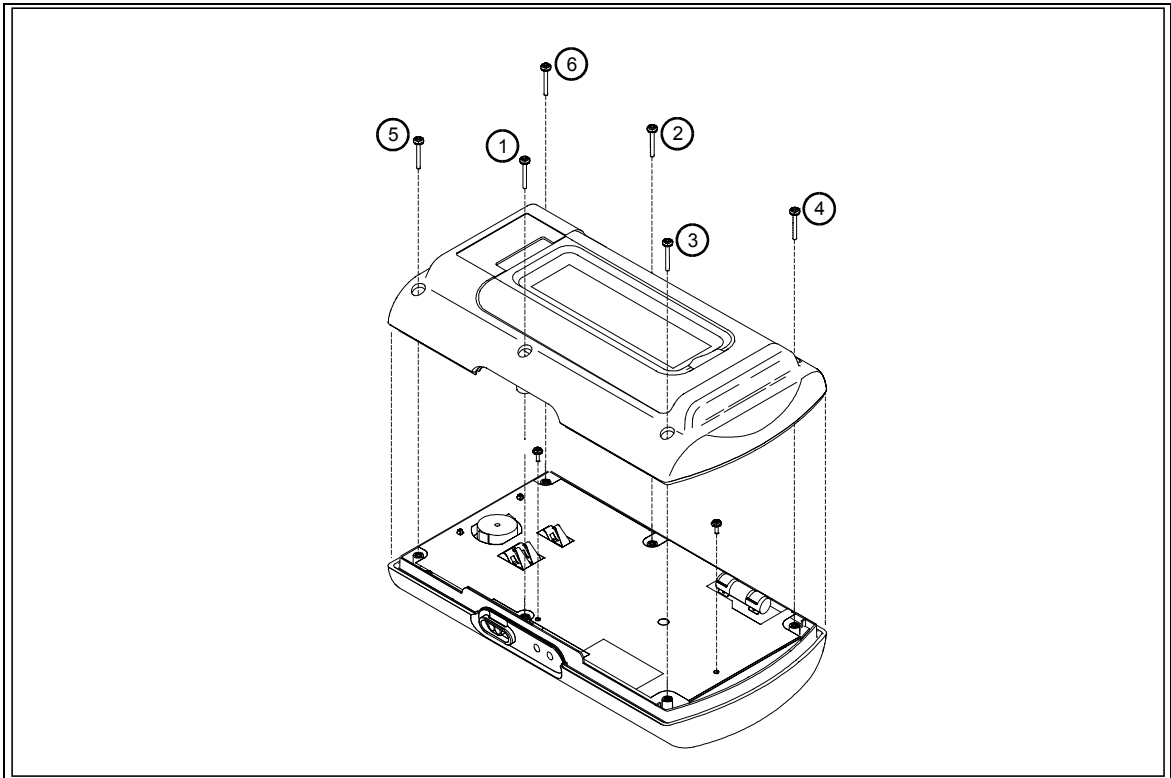

Figure 3-2. Reassembly
6. Replace the case bottom. Torque the six securing screws to 11-13 inch-pounds in the sequence shown in Figure 3-2.